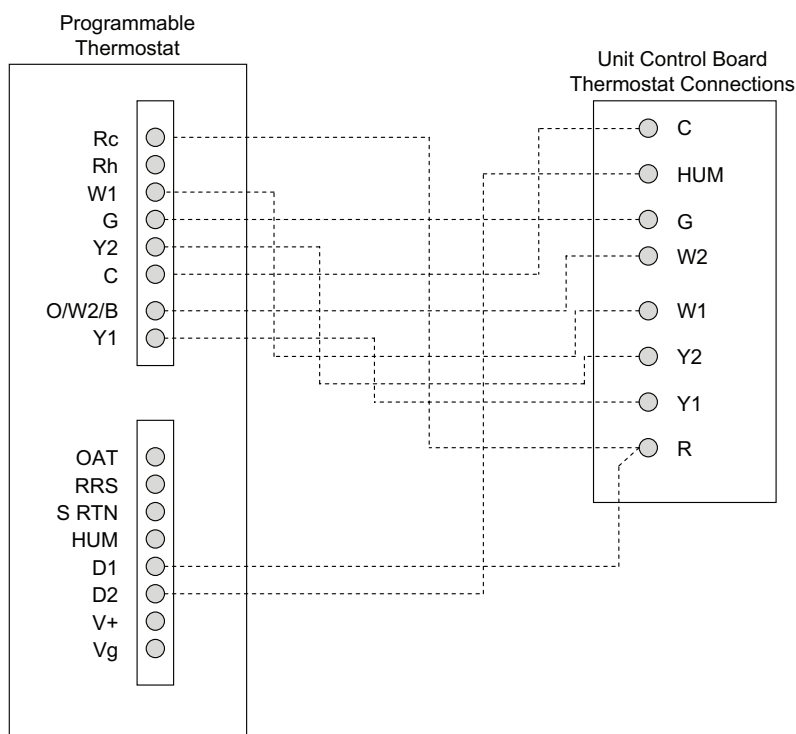

Fig. 57 — 50GC-17-28 Unit with Humidi-MiZer Adaptive Dehumidification System with Edge® Pro Thermidistat Device
3. The Thermidistat has dry contacts at terminals D1 and D2 for dehumidification operation (see Fig. 57). Connect D1 to the R terminal on the UCB. Connect D2 to the HUM terminal on the UCB. Refer to the installation instructions included with the Carrier Edge® Pro Thermidistat device for more information.